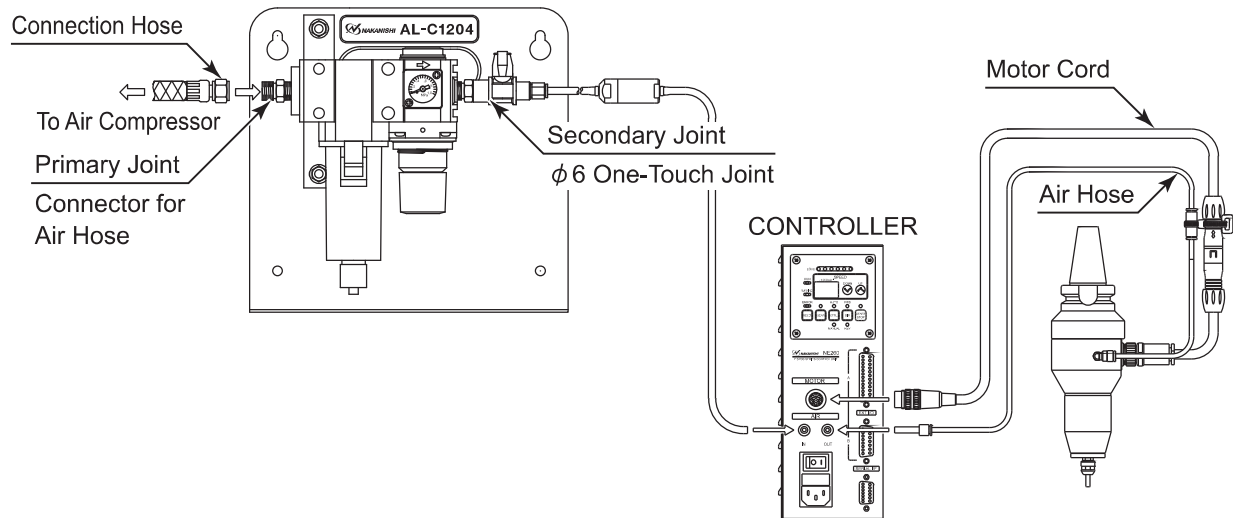

Fig. 20
- ① Connect the Motor Cord and Air Hose as shown in Fig. 20.
- ② Be sure to use the NAKANISHI Air Line Kit (AL - C1204). The CONTROLLER and the Brushless Motor Spindle must be supplied with clean, dry air, regulated to between 0.25 - 0.3MPa (36.2 - 43.5psi). Connect the 6mm air hose from the Air Line Kit (AL - C1204) secondary joint to the CONTROLLER's Air Input Joint. If not using the NAKANISHI Air Line Kit (AL - C1204) a filter / regulator must be installed to supply clean, dry and regulated air to the CONTROLLER and the Brushless Motor Spindle.
- ③ Start-up of the Brushless Motor Spindle.